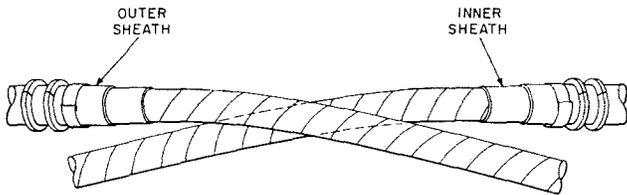

Fig. 7—2-1/4 Inches of Outer Sheath Removed
3.07 Remove 2-1/4 inches of **outer jacket** and underlying metal up to tape markers as illustrated in Fig. 7. Then remove inner tape markers.